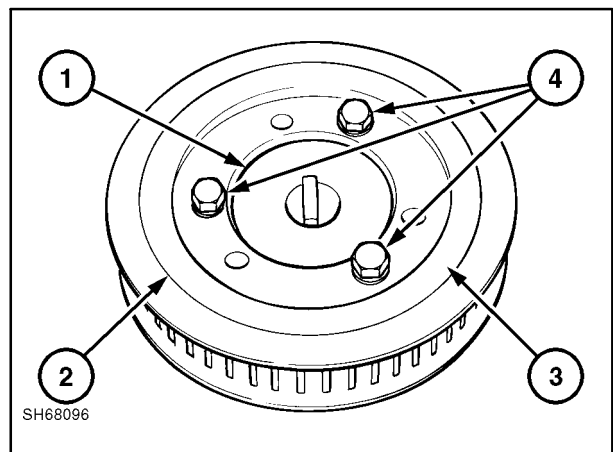

Figure 8-106
3. Figure 8-106 shows the proper assembly of the pump, 1; adapting plate, 2; and engine mount, 3.